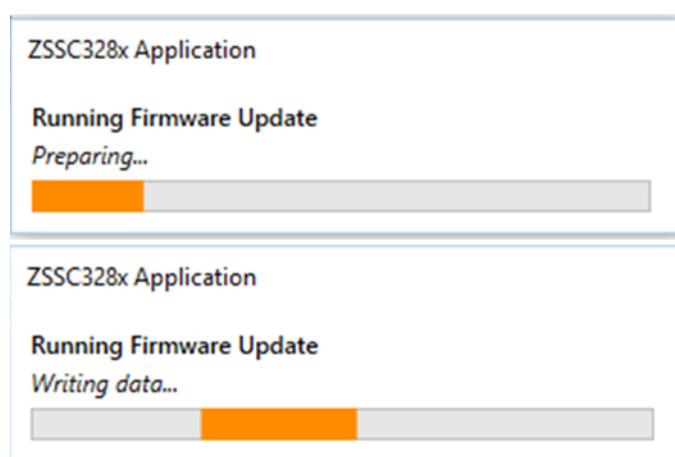

Figure 194. FW Update Operation
2. Click the “Start Firmware Update” button. The ‘ZSSC328x Application’ window pops-up (see Figure 194). The button is enabled if all criteria to perform a FW update is met. During the update, no other action can be performed in the GUI.